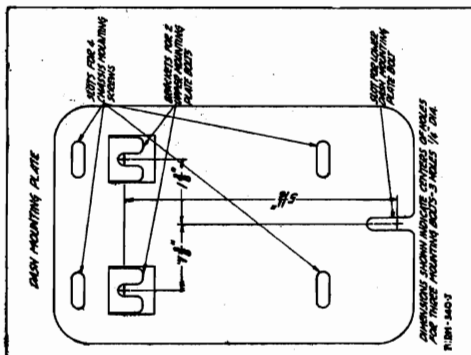

Fig. 5—Dash Mounting Plate Ignition and Generator Noise, before this can be done.
In Fig. 5 (B) is shown how the brackets may be mounted vertically if space does not permit their being mounted horizontally, as is the case in some cars.